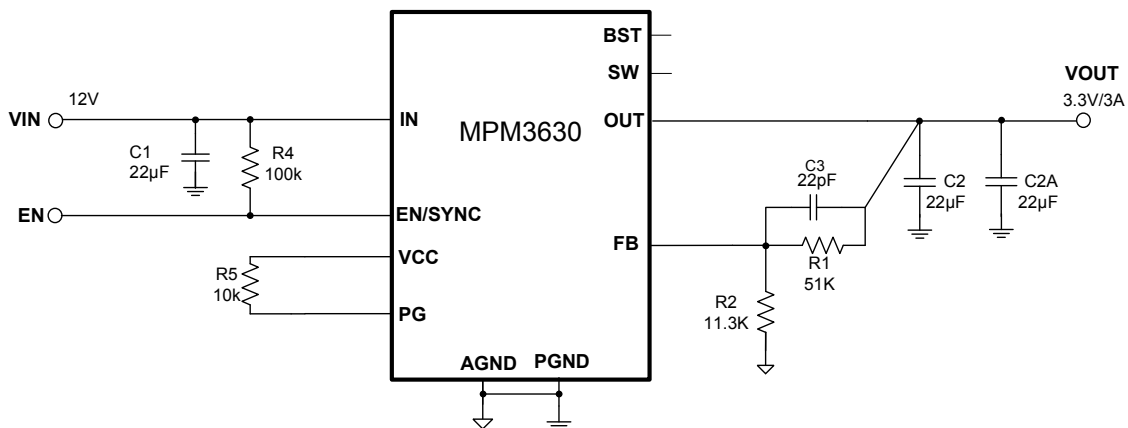

Figure 14: $V_o = 3.3V$, $I_o = 3A$
9) The recommended layout is based on the Figure 14 Typical Application circuit.
The detailed application schematic is shown in Figure 14. The typical performance and circuit waveforms have been shown in the Typical Performance Characteristics section. For more device applications, please refer to the related Evaluation Board Datasheets.